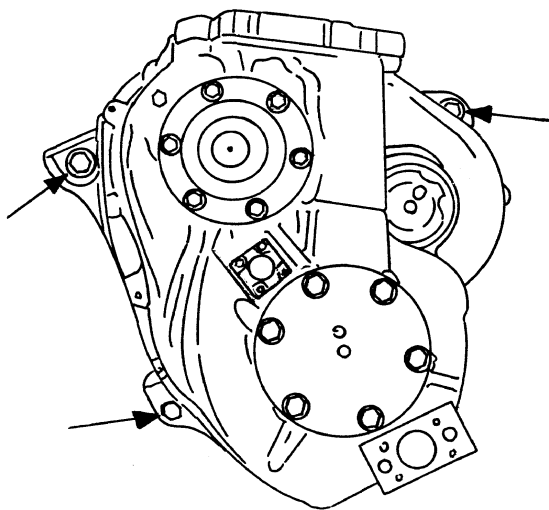

Fig. 7C.5. Bolts Securing Transmission to the Rear Main Frame
15. Remove the universal joint (3) from between the torque converter and transmission:
16. Install two lifting eyebolts M16 in threaded holes (3, Fig. 7C.2) provided in top of transmission. Attach a hoist and sling with a lift hook to two lifting eyes threaded into transmission body (5). Remove slack from hoist so that will support transmission when transmission mounting bolts are removed.
17. Remove three bolts securing transmission to main frame (Fig. 7C.5). Move transmission forward to free output shaft from steering drive. Lift the transmission up of the machine.